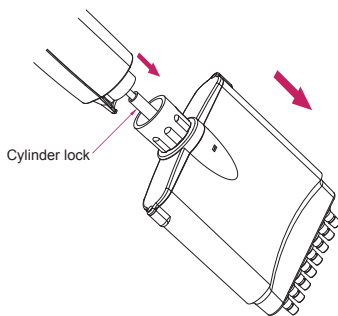

Figure 12: Push the cylinder lock downward until you hear a click sound.
4. **Please place the pipette on a flat surface.** Push the cylinder lock downwards until you hear a click sound as shown in Figure 12.